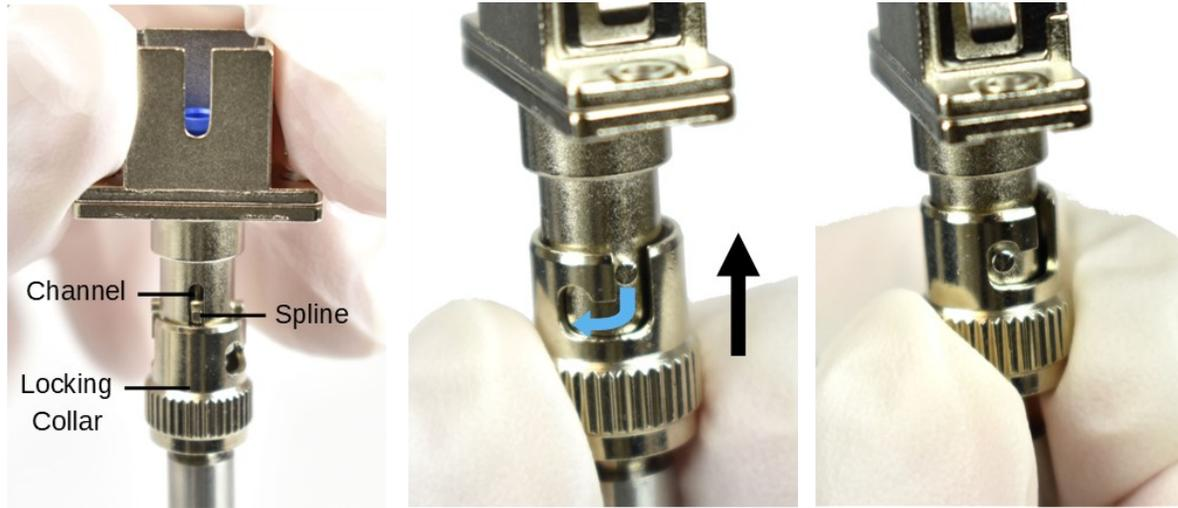

Figure 9. Securing SC-ST adapter to Flow Fibrette.
12. Connect the SC-ST adapter to the Flow Fibrette by aligning the spline of the Fibrette with the channel of the adapter. Gently insert the adapter fully into the locking collar of the Fibrette. Lift up and twist the collar to secure the pegs on either side, as shown in Figure 9.